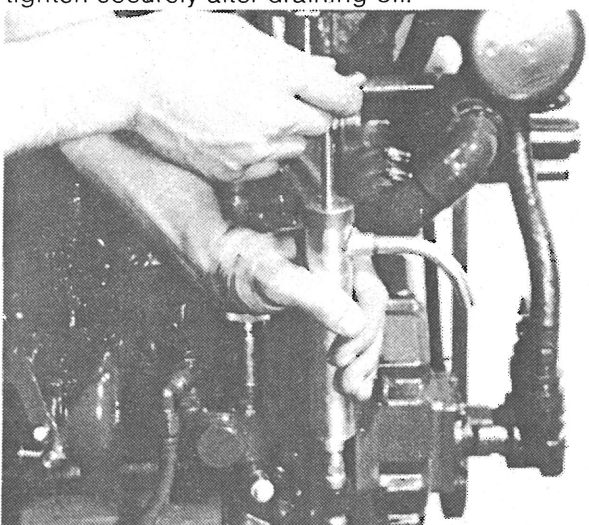

Figure 25 - Oil change hand pump, LUGGER
- Attach the hand pump to the end of the oil tube and drain by pumping (figure 25).